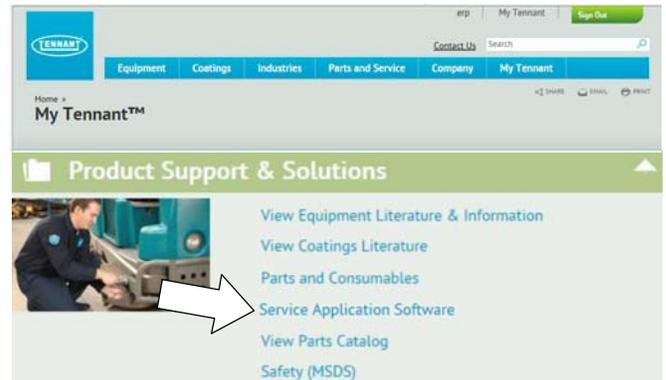

Fig. 21
2. Once logged on to the “My Tennant” website, click on the “**Service Application Software**” link under the “Product Support & Solution” section as shown below (Figure 21).